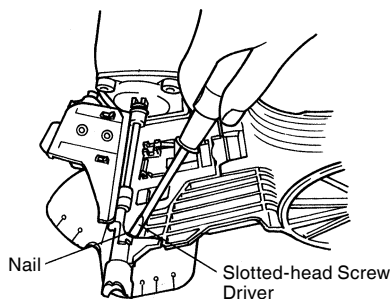

Fig. 19
- (2) Remove the jammed nail with slotted-head screwdriver. (**Fig. 19**)